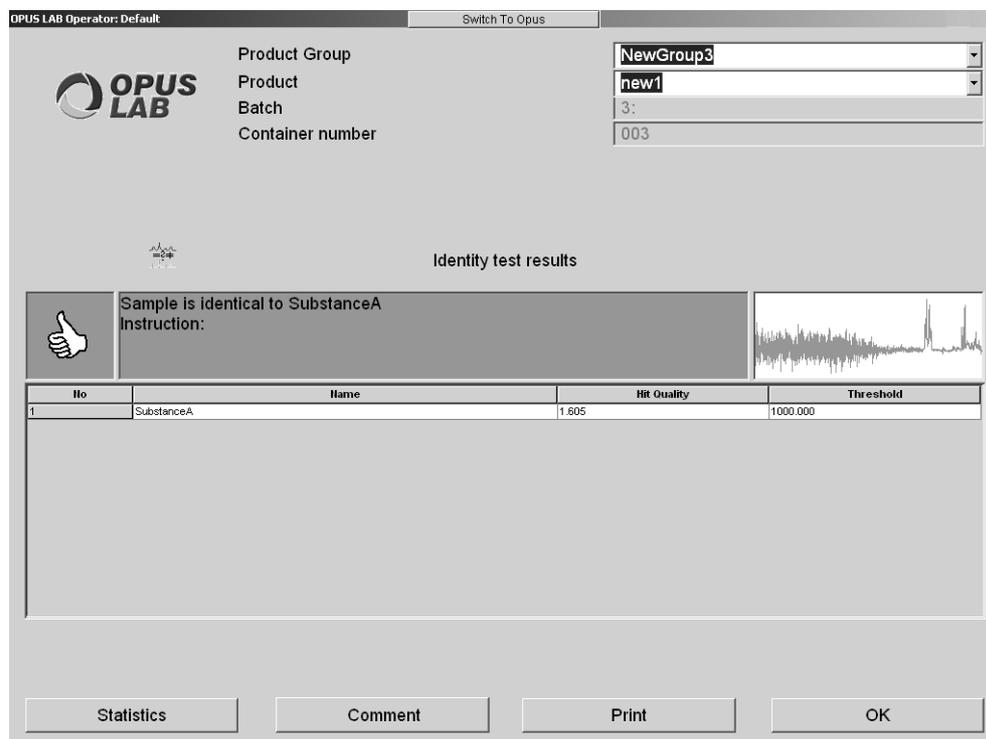

Figure 40: OPUS LAB - IDENT test results
- a) **Sample identified** (see figure 40). The instruction refers to the entry in the *Instruction if substance is identified* field (see chapter 2.2.5).